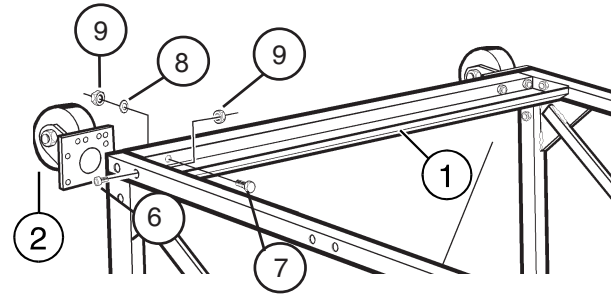

Figure 9: Installing the Bottom Panel
Step 7: Flip the rack over so that the back of the rack is facing the floor. Install the second bottom panel (Item 1) using Items 6 and 9, and the two other swivel casters (Item 2) using Items 7, 8 and 9 (Figure 9).